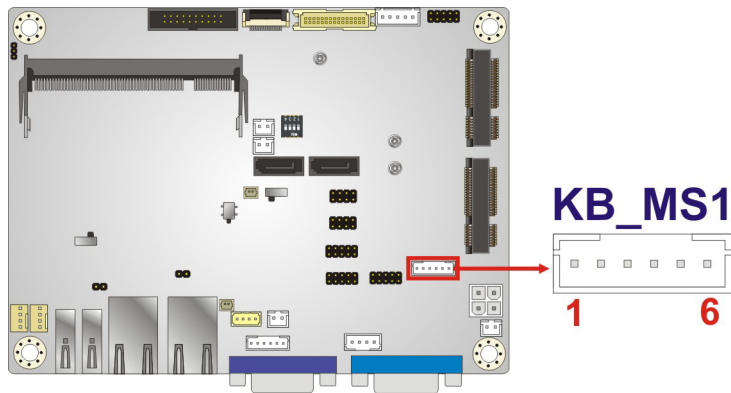

Figure 3-11: Keyboard and Mouse Location
- CN Location: See **Figure 3-11**